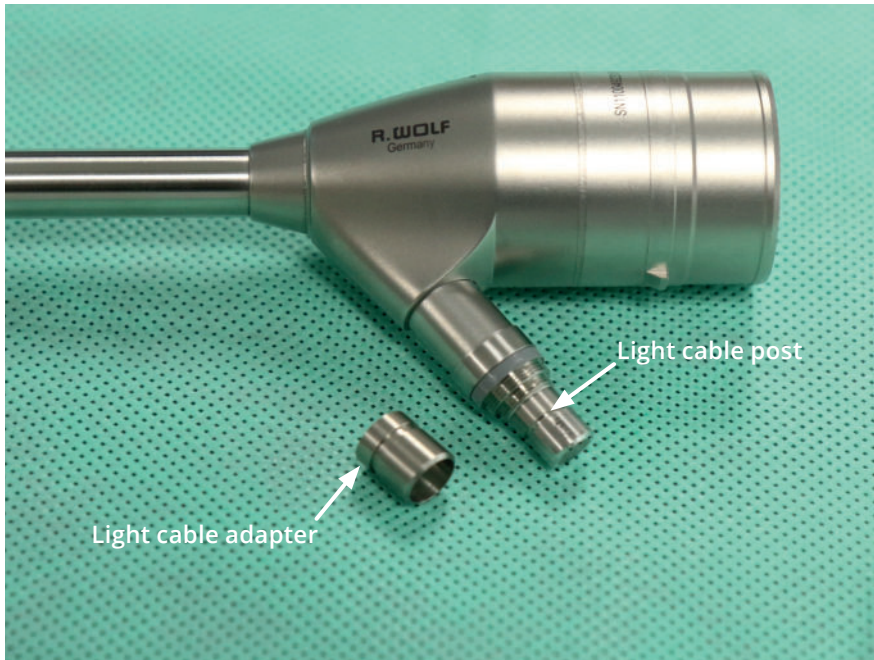

Figure 2.4 Versius Endoscope (disassembled)
- Light cable post (Figure 2.4)
- Light cable adapter (Figure 2.4)
The light cable adapter unscrews from the light cable post (see Figure 2.4). This is required during reprocessing. See the Versius Endoscope Reprocessing Instructions (REF 70200).